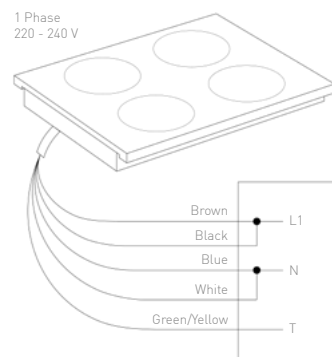

Figure 1
The system can be connected to a Single phase 220-240 V electric system, according to Figure 1.
2. In the circuit breaker, fuse box, or junction box, connect appliance and power supply cable wires, according to Figure 1 or Figure 2.